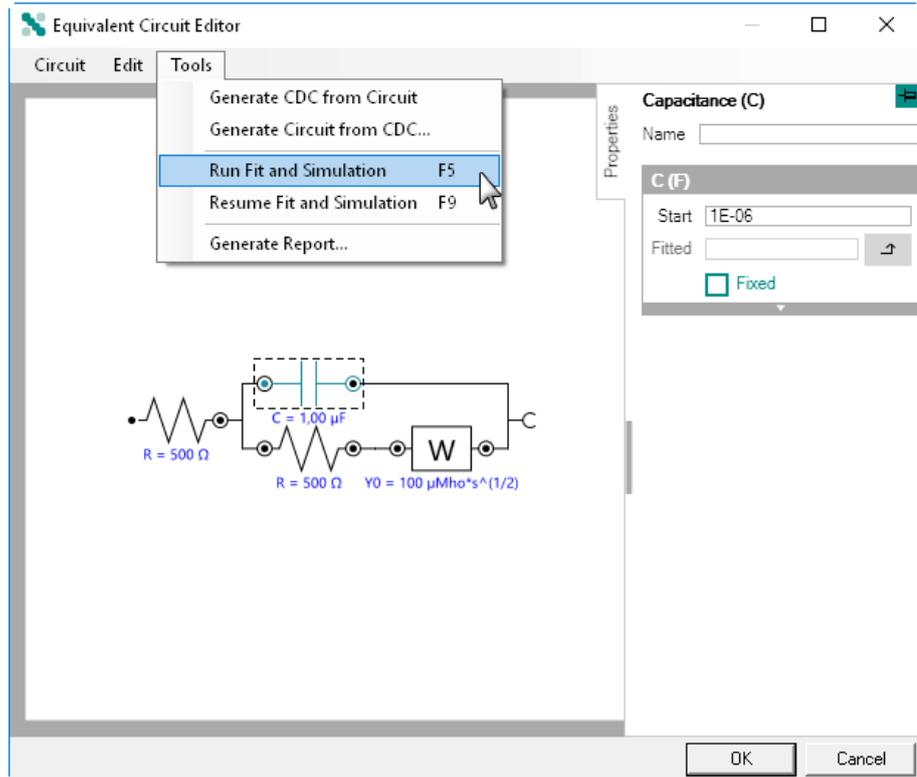

Figure 984 Running the calculation within the Equivalent Circuit Editor
- **By using the Tools menu in the Equivalent Circuit Editor:** the Tools menu provides the possibility to *Run Fit and simulation* (**[F5]** shortcut key) or *Resume Fit and simulation* (**[F9]** shortcut key), as shown in Figure 984.